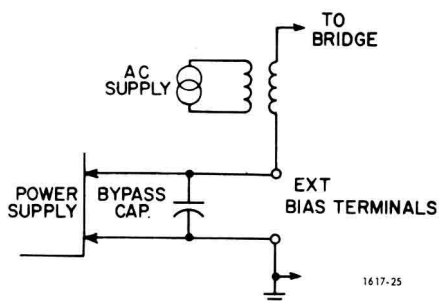

Figure 4-5. Connection of the external bias supply.
c. To preserve the sensitivity of the bridge, the effective ac impedance of the supply has to be very low, and this is ensured by placing a bypass capacitor as shown in Figure 4-5. This capacitor should be at least of the same order of magnitude as the unknown.